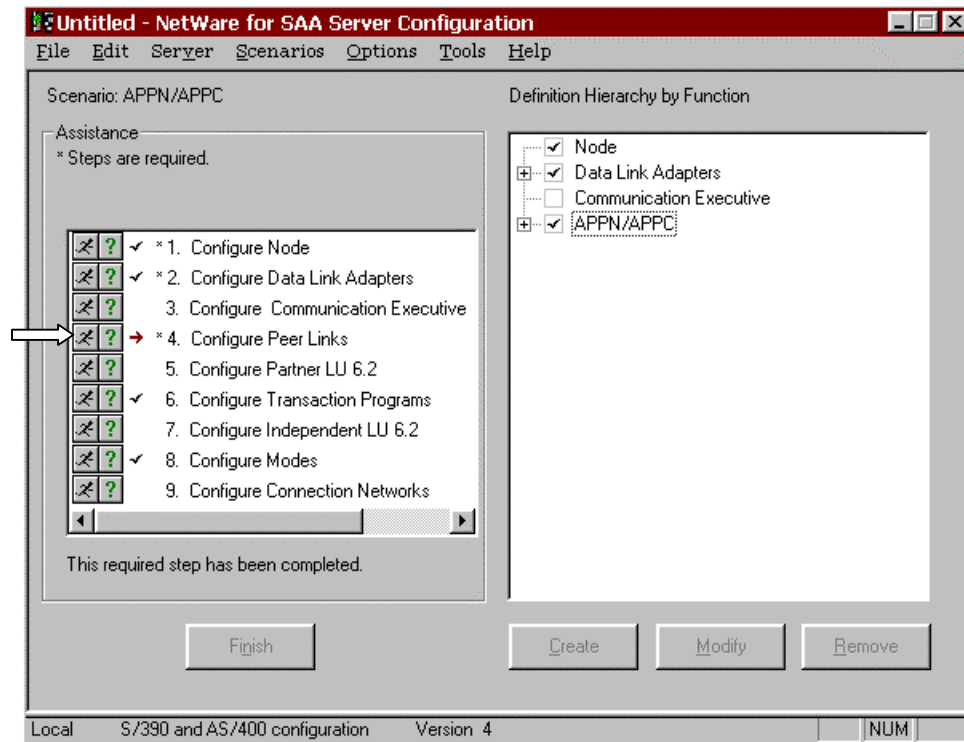
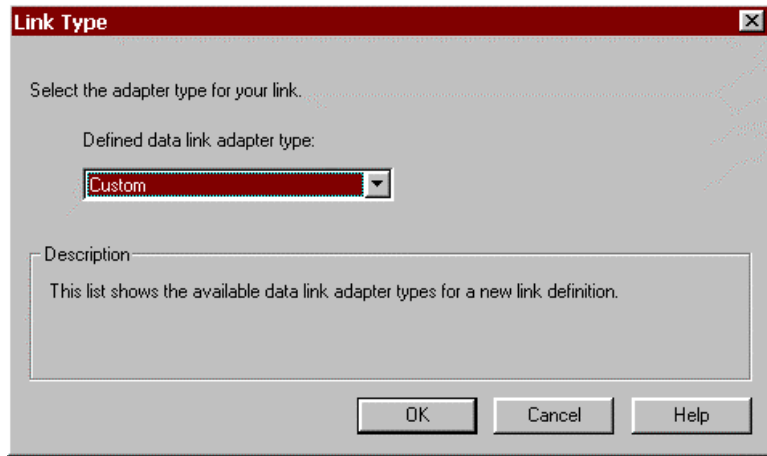

Figure 11-23. Configuring Peer Links
Figure 11-24. Specify Link Type for Peer Link
1. Click the “Running Man” next to **Configure Peer Links** (Figure 11-23). A Link Type dialog will display (Figure 11-24). Select **Custom** and click **OK**.